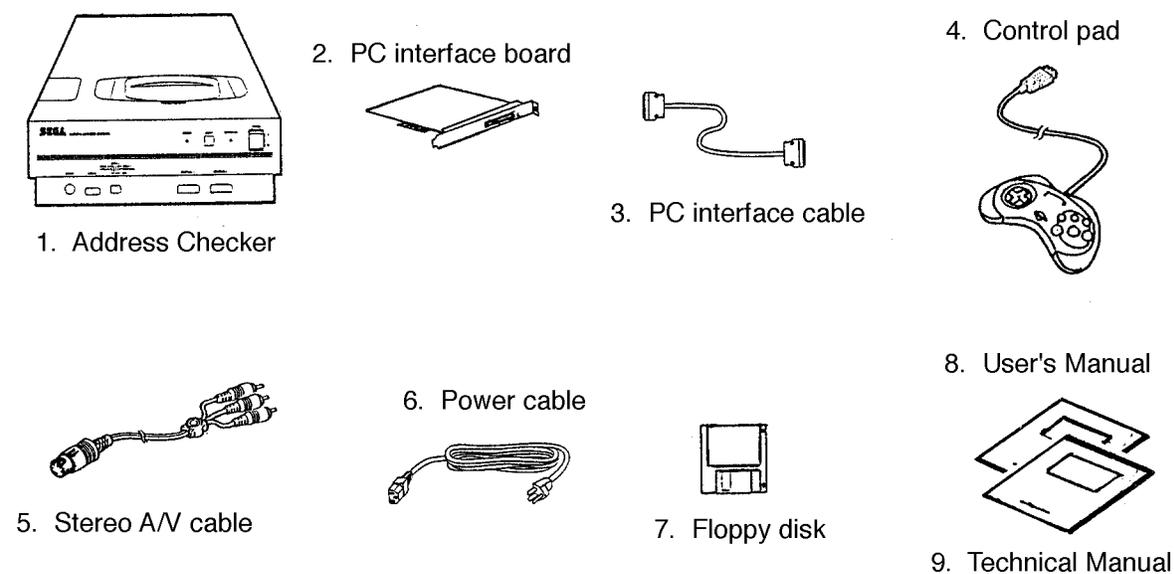

Figure 1 Address Checker Equipment List
A list of Address Checker equipment is given in Figure 1. Please check to make sure that you have parts (1) through (9).
- (1) Address Checker—1